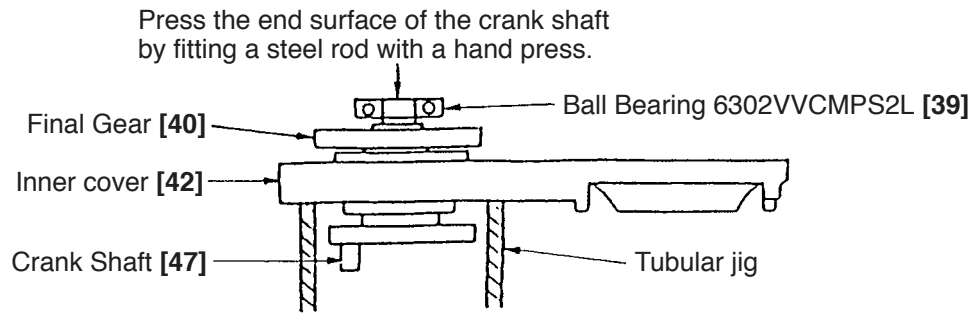

Fig. 5
First, remove the four Seal Lock Hex. Socket Hd. Bolts M5 x 16 [46] which fix the Bearing Cover [45]. Then, as illustrated in Fig. 5, support the lower surface of the Inner Cover [42] with an appropriate tubular jig, align an appropriate steel rod with the end surface of the Crank Shaft [47], and press down on the steel rod with a hand press. The Ball Bearing 6205DDCMPS2L [44], Distance Ring (B) [41], Final Gear [40], two Woodruff Keys 4 x 16 [71], and Crank Shaft [47] can then be disassembled from the Inner Cover [42].